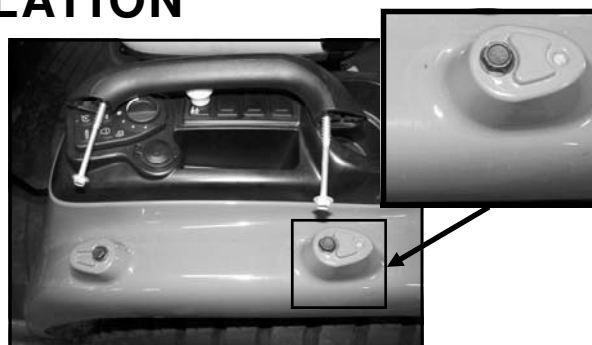

Fig. 1.1 (Typical both sides)
**1.1** Per figure 1.1, remove both grab handles, leave spacers in place. Install hardware listed below, with bolts to the top side of fender. Tighten hardware to secure fenders to supports.